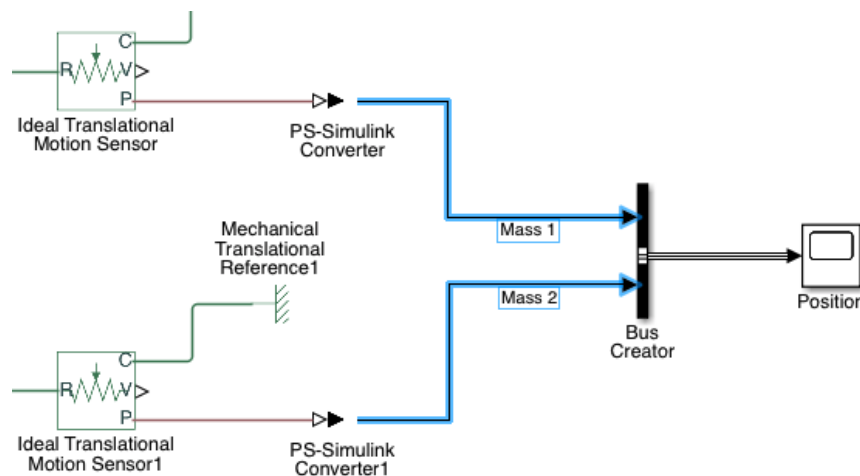
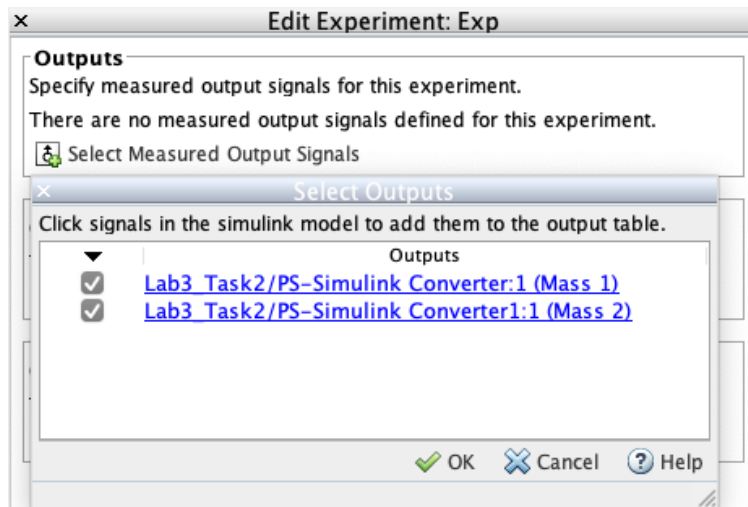

Figure 5: Mass 1 & 2 Output Signals
Figure 6: Select Outputs Window
4. Once, the “Select Outputs” window opens, you will need to add the Mass 1 and Mass 2 outputs to the output table. Do this by selecting the Mass 1 and Mass 2 output arrows in the block diagram, as shown in figure 5. The signals should then be added to the output table for the experiment as shown in figure 6.